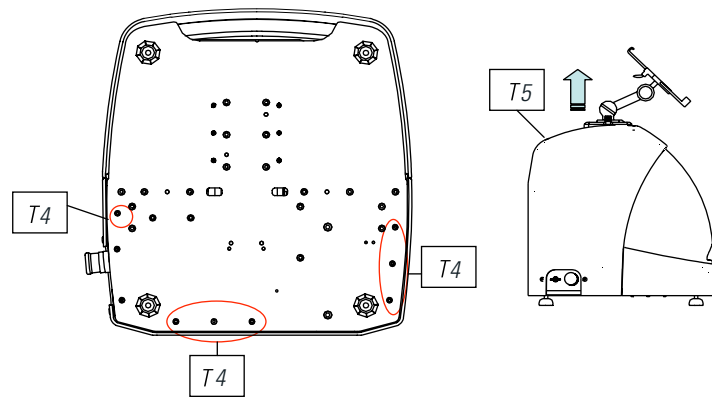

FIG. 21
- 3) Release 7 screws (T4) with a 3mm Allen key (Fig. 21)